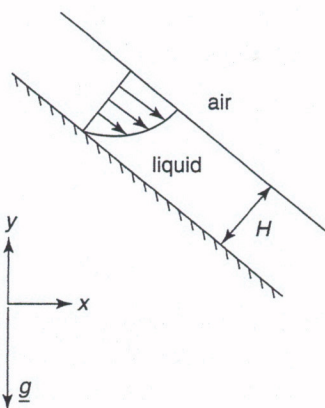

Figure 5.41
34. The problem of a thin film falling down an incline is discussed in this chapter. Figure 5.41 is a version of this problem in which a Cartesian coordinate system is proposed. Write the velocity vector in this coordinate system (i.e., which components are zero?) and the boundary conditions. How does the